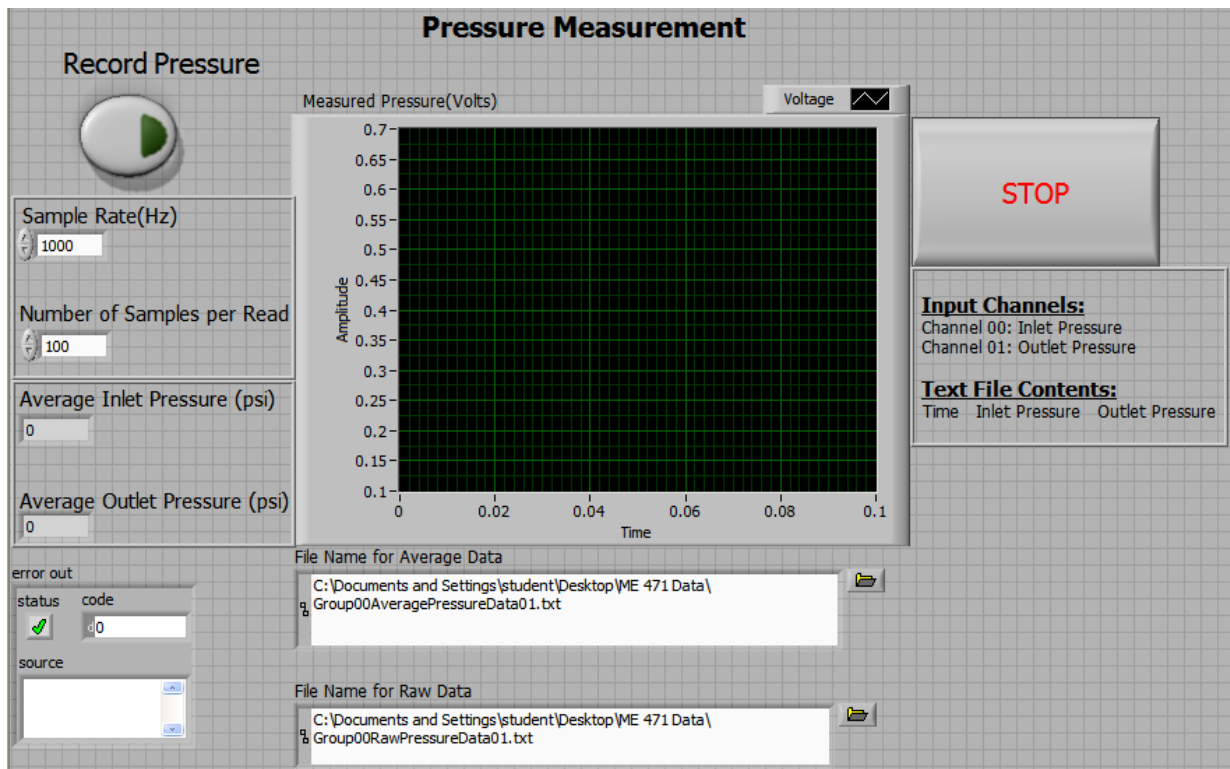

Figure 1. Front Panel (Graphical User Interface) for Pressure Measurement Program
- The front panel of the LabVIEW *pressure measurement* program is in Fig 1. The program was written to read pressure measurements from the *inlet* and *outlet* ports of a flow restriction.